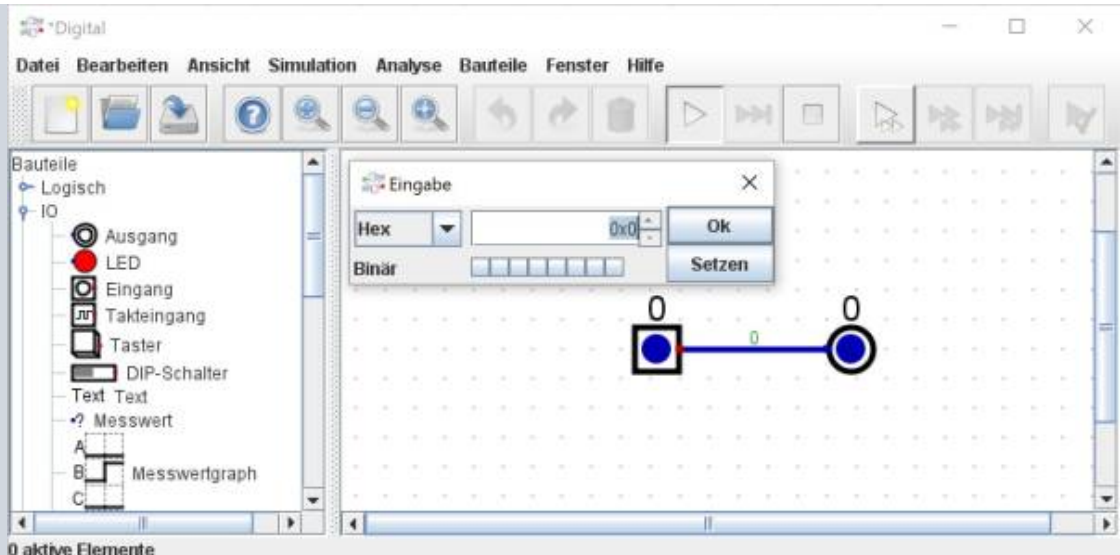

Fig. 3: Circuit with 8 bit bus
5. If the circuit is started now, a 0 appears over input, line, and output (see figure 3).
6. A (left)click on the input no longer changes the value directly, but opens an input window. In this window, numbers can be entered as decimal values (10), binary values (0b10), hexadecimal values (0x10), or octal values (010). Pressing Line break (<↵>) accepts the value and closes the input window. Clicking Shift + New Line (<⇧><↵>) accepts only the value. The cursor keys up/down allow the displayed value to be counted up/down.